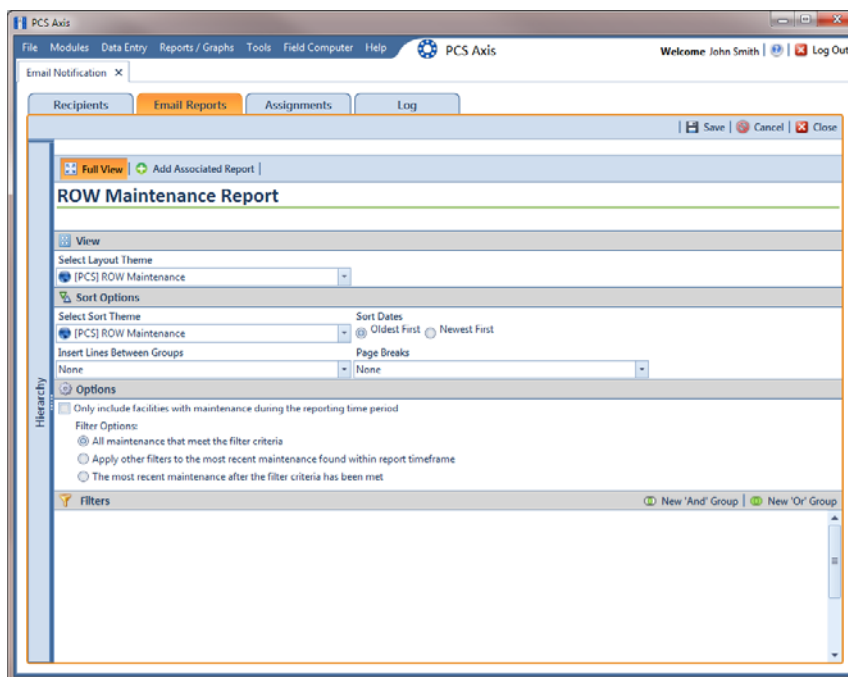

Figure 11-10. Email Reports
- 10 Click  **Full View** to only display fields for setting report options. Clicking *Full View* again displays all fields (Figure 11-10).